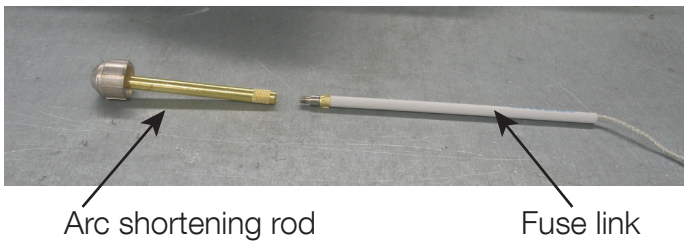

Figure 4 - Arc shortening rod assembly
3. Step 3. Screw fuse onto the arc shortening rod. (See Fig. 4).